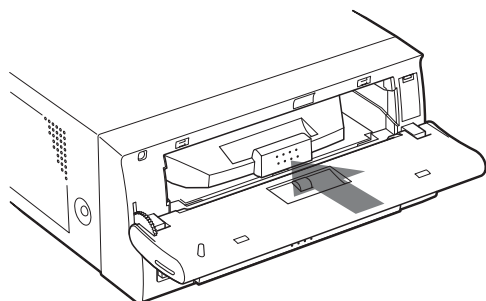

Figure 3.8
- 7** Push the ink ribbon holder all the way into the color video printer (OEP-5) (see Figure 3.8).